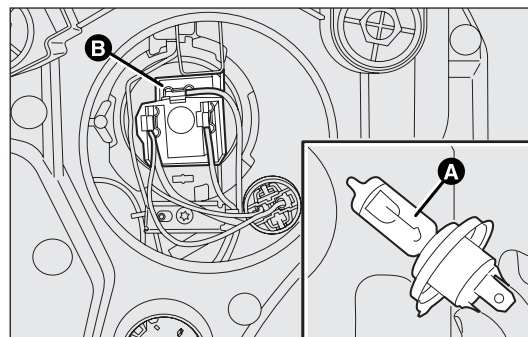

fig. 168
- ☐ disconnect the central electric connector B-fig. 168 and release the bulb holder catch;